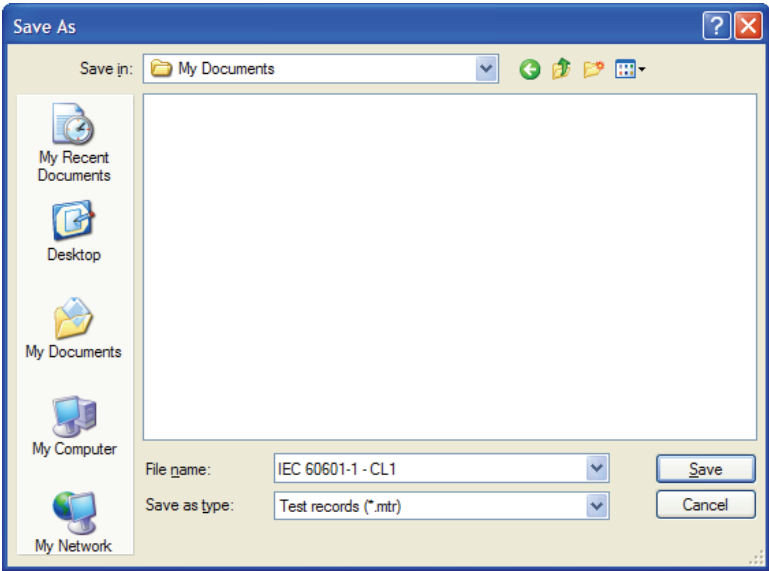

Figure 3-14. Save As Dialog Box
1. Click **File | Save** on the main menu or click the save toolbar button (). The Save As dialog box opens as shown in Figure 3-14.